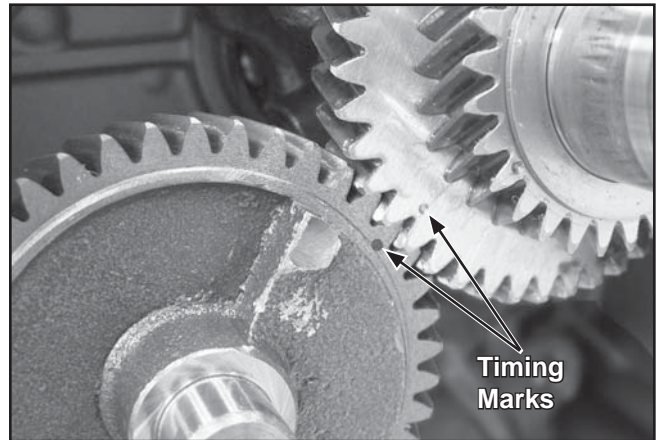

Figure 11-27. Aligning Timing Marks.
2. Install the balance shaft, aligning the timing mark with the timing mark on the larger crankgear. See Figure 11-27.